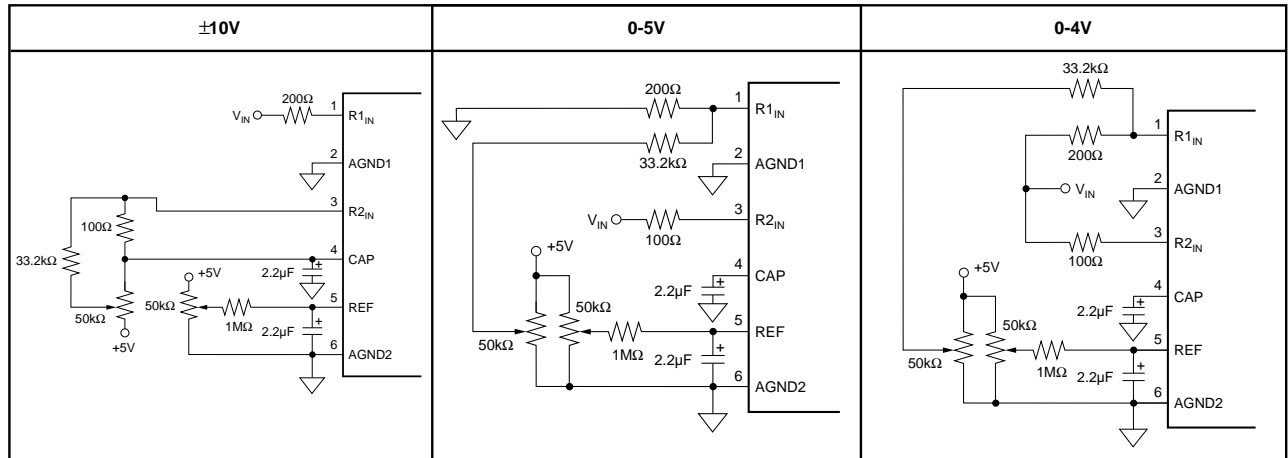
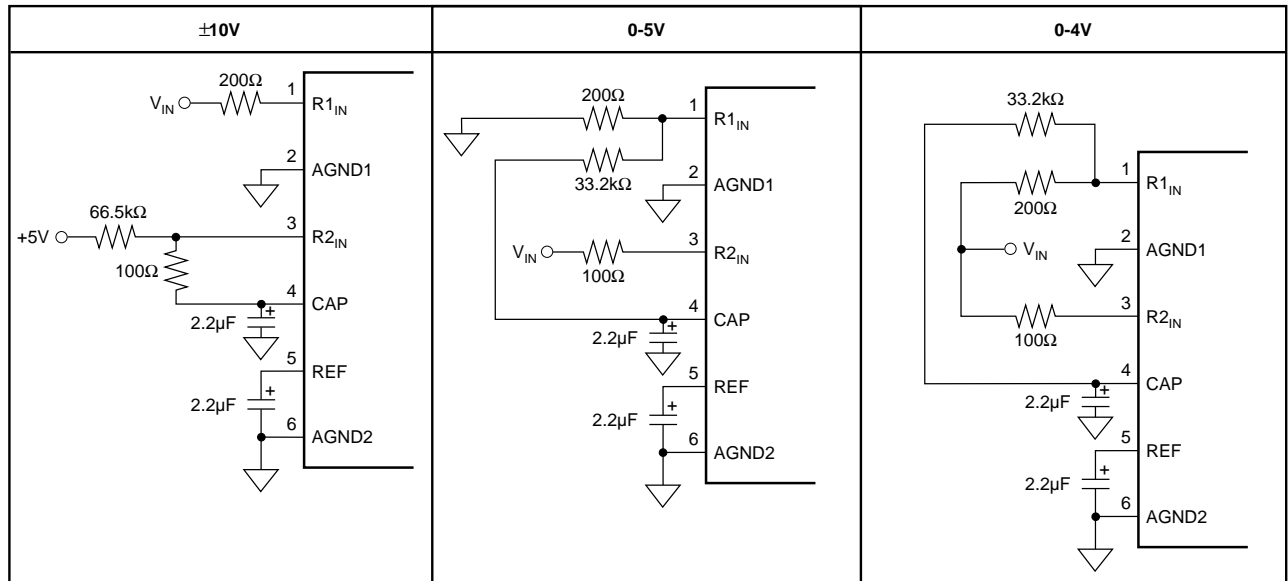
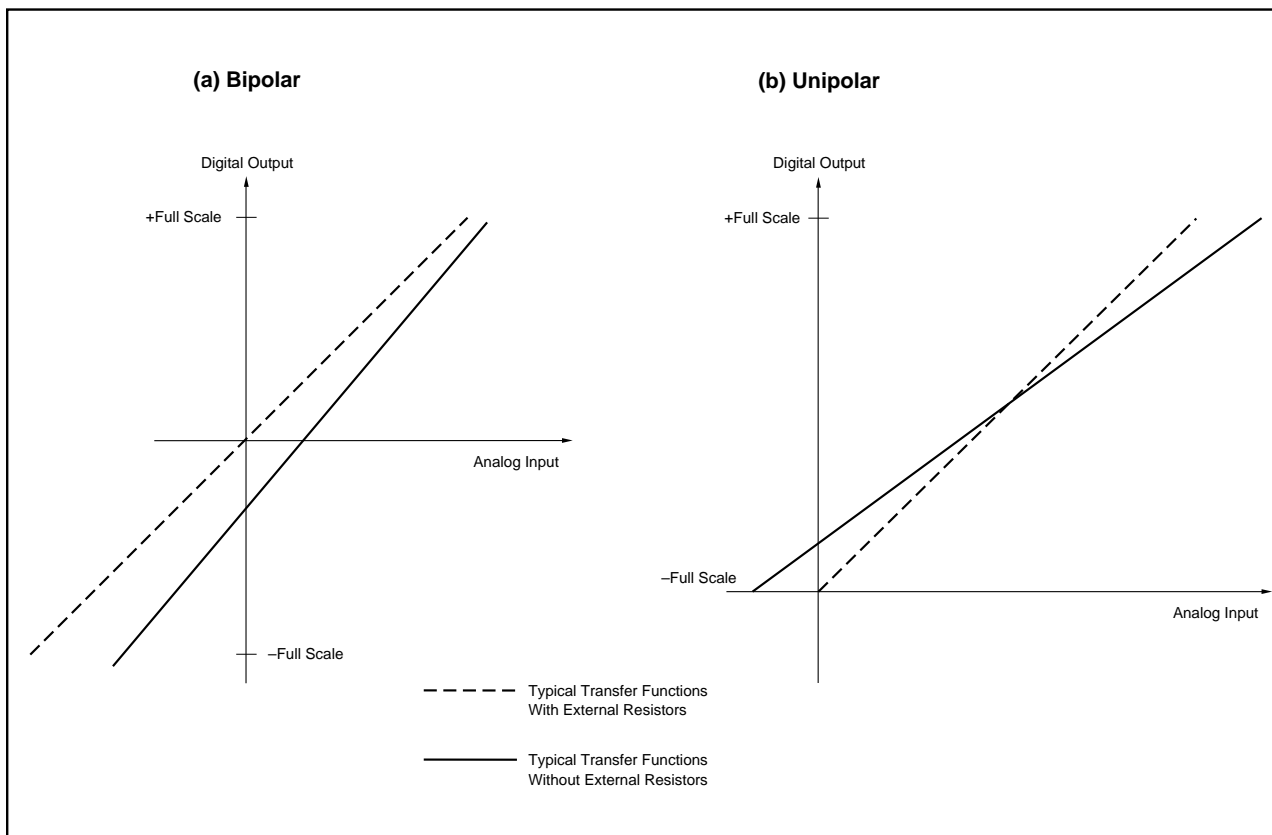

FIGURE 7a. Circuit Diagrams (With Hardware Trim).
FIGURE 7b. Circuit Diagrams (Without Hardware Trim).
FIGURE 8. Typical Transfer Functions With and Without External Resistors.
The ADS7806 offers three input ranges: standard  $\pm 10\text{V}$  and 0-5V, and a 0-4V range for complete, single supply systems. Figures 7a and 7b show the necessary circuit connections for implementing each input range and optional offset and gain adjust circuitry. Offset and full scale error(1) specifications are tested and guaranteed with the fixed resistors shown in Figure 7b. Adjustments for offset and gain are described in the **Calibration** section of this data sheet.
used for each input range (see Figure 8). The input resistor divider network provides inherent overvoltage protection guaranteed to at least  $\pm 25V$ .
To calibrate the offset and gain of the ADS7806 in hardware, install the resistors shown in Figure 7a. Table VII lists the hardware trim ranges relative to the input for each input range.
TABLE VII. Offset and Gain Adjust Ranges for Hardware Calibration (see Figure 7a).
fications for offset and gain, the resistors shown in Figure 7b are necessary. See the **No Calibration** section for more details on the external resistors. Refer to Table VIII in the range of offset and gain errors with and without the external resistors.
See Figure 7b for circuit connections. Note that the actual voltage dropped across the external resistors is at least two orders of magnitude lower than the voltage dropped across the internal resistor divider network. This should be consid-
The external resistors shown in Figure 7b may not be necessary in some applications. These resistors provide compensation for an internal adjustment of the offset and gain which allows calibration with a single supply. Not using the external resistors will result in offset and gain errors in addition to those listed in the electrical specifications section. Offset refers to the equivalent voltage of the digital output when converting with the input grounded. A positive gain error occurs when the equivalent output voltage of the digital output is larger than the analog input. Refer to Table VIII for nominal ranges of gain and offset errors with and without the external resistors. Refer to Figure 8 for typical shifts in the transfer functions which occur when the external resistors are removed.